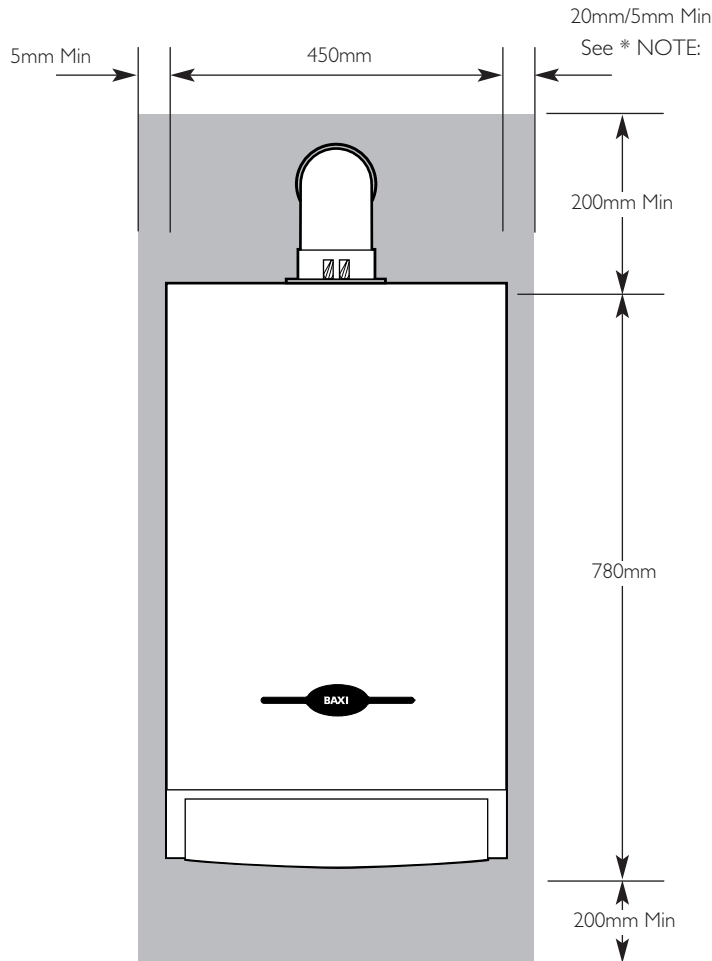

Fig. 20
4.1 Clearances around the Boiler (Figs. 20 & 21)